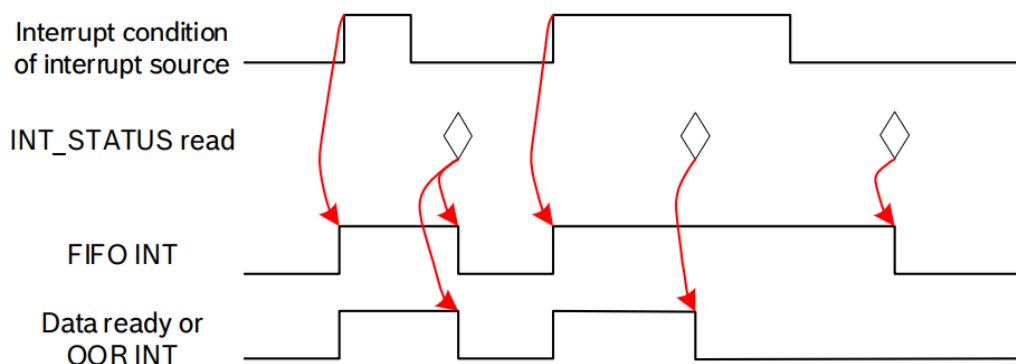

Figure 6: INT pin timing in latched mode
**Latched Mode.** In latched mode, the INT pin is asserted as long as an interrupt condition is TRUE, and the interrupt source is enabled in INT\_SOURCE. Between two adjacent assertions of the INT pin, there is a minimum gap of  $t_{\text{int\_deassert}}$ . Figure 6 shows the timing of latched mode.